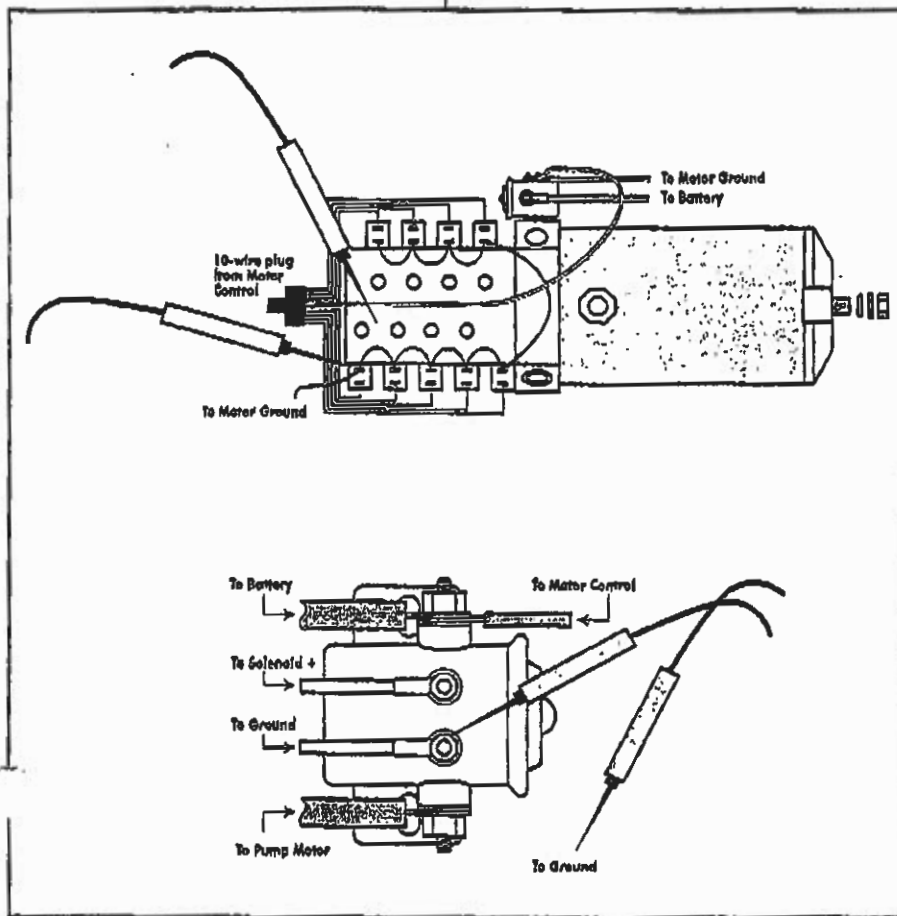

Figure 6a
4. Check master ground for the pump motor solenoid and solenoid valves. (Fig. 6a)